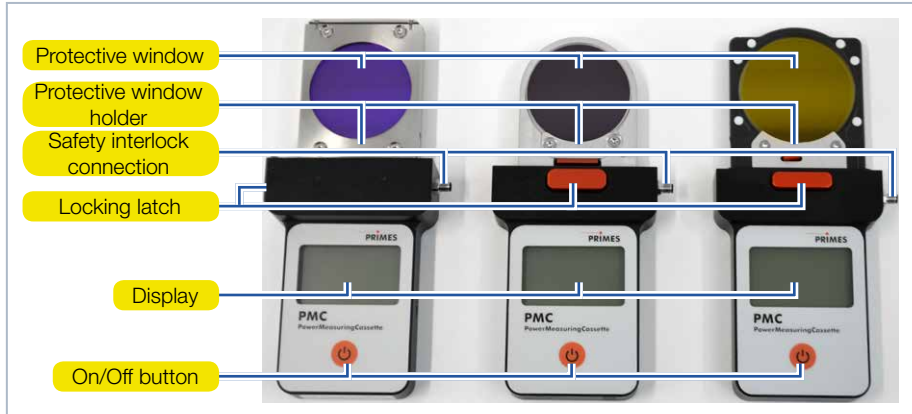

Fig. 5.1: System description of the PMC
5. Insert the device into the slot of the laser processing head until the locking latch locks in place (see Fig. 5.1 on page 11).
3. Remove the safety interlock connection cable, press the locking latch (see Fig. 5.1 on page 11) and remove the device from the laser processing head.